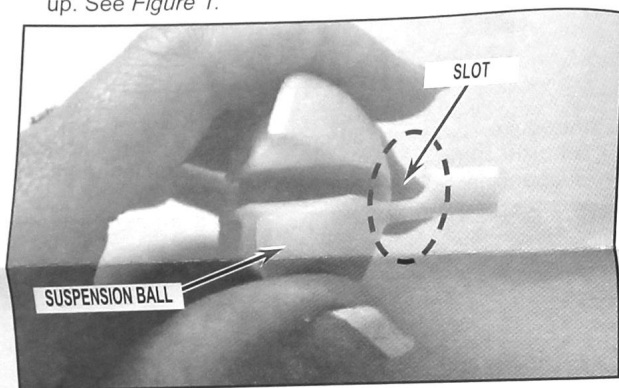

FIGURE 1
2. Hold suspension ball on its side with the slot feature facing up. See Figure 1.